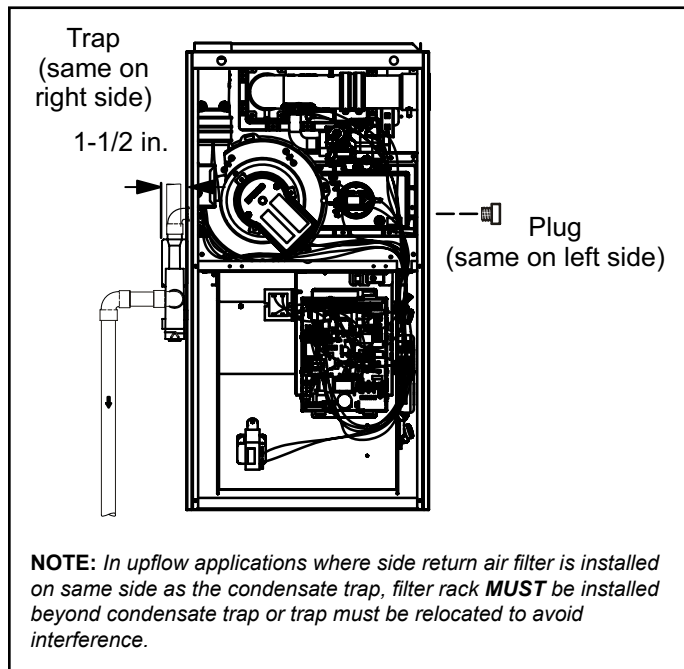
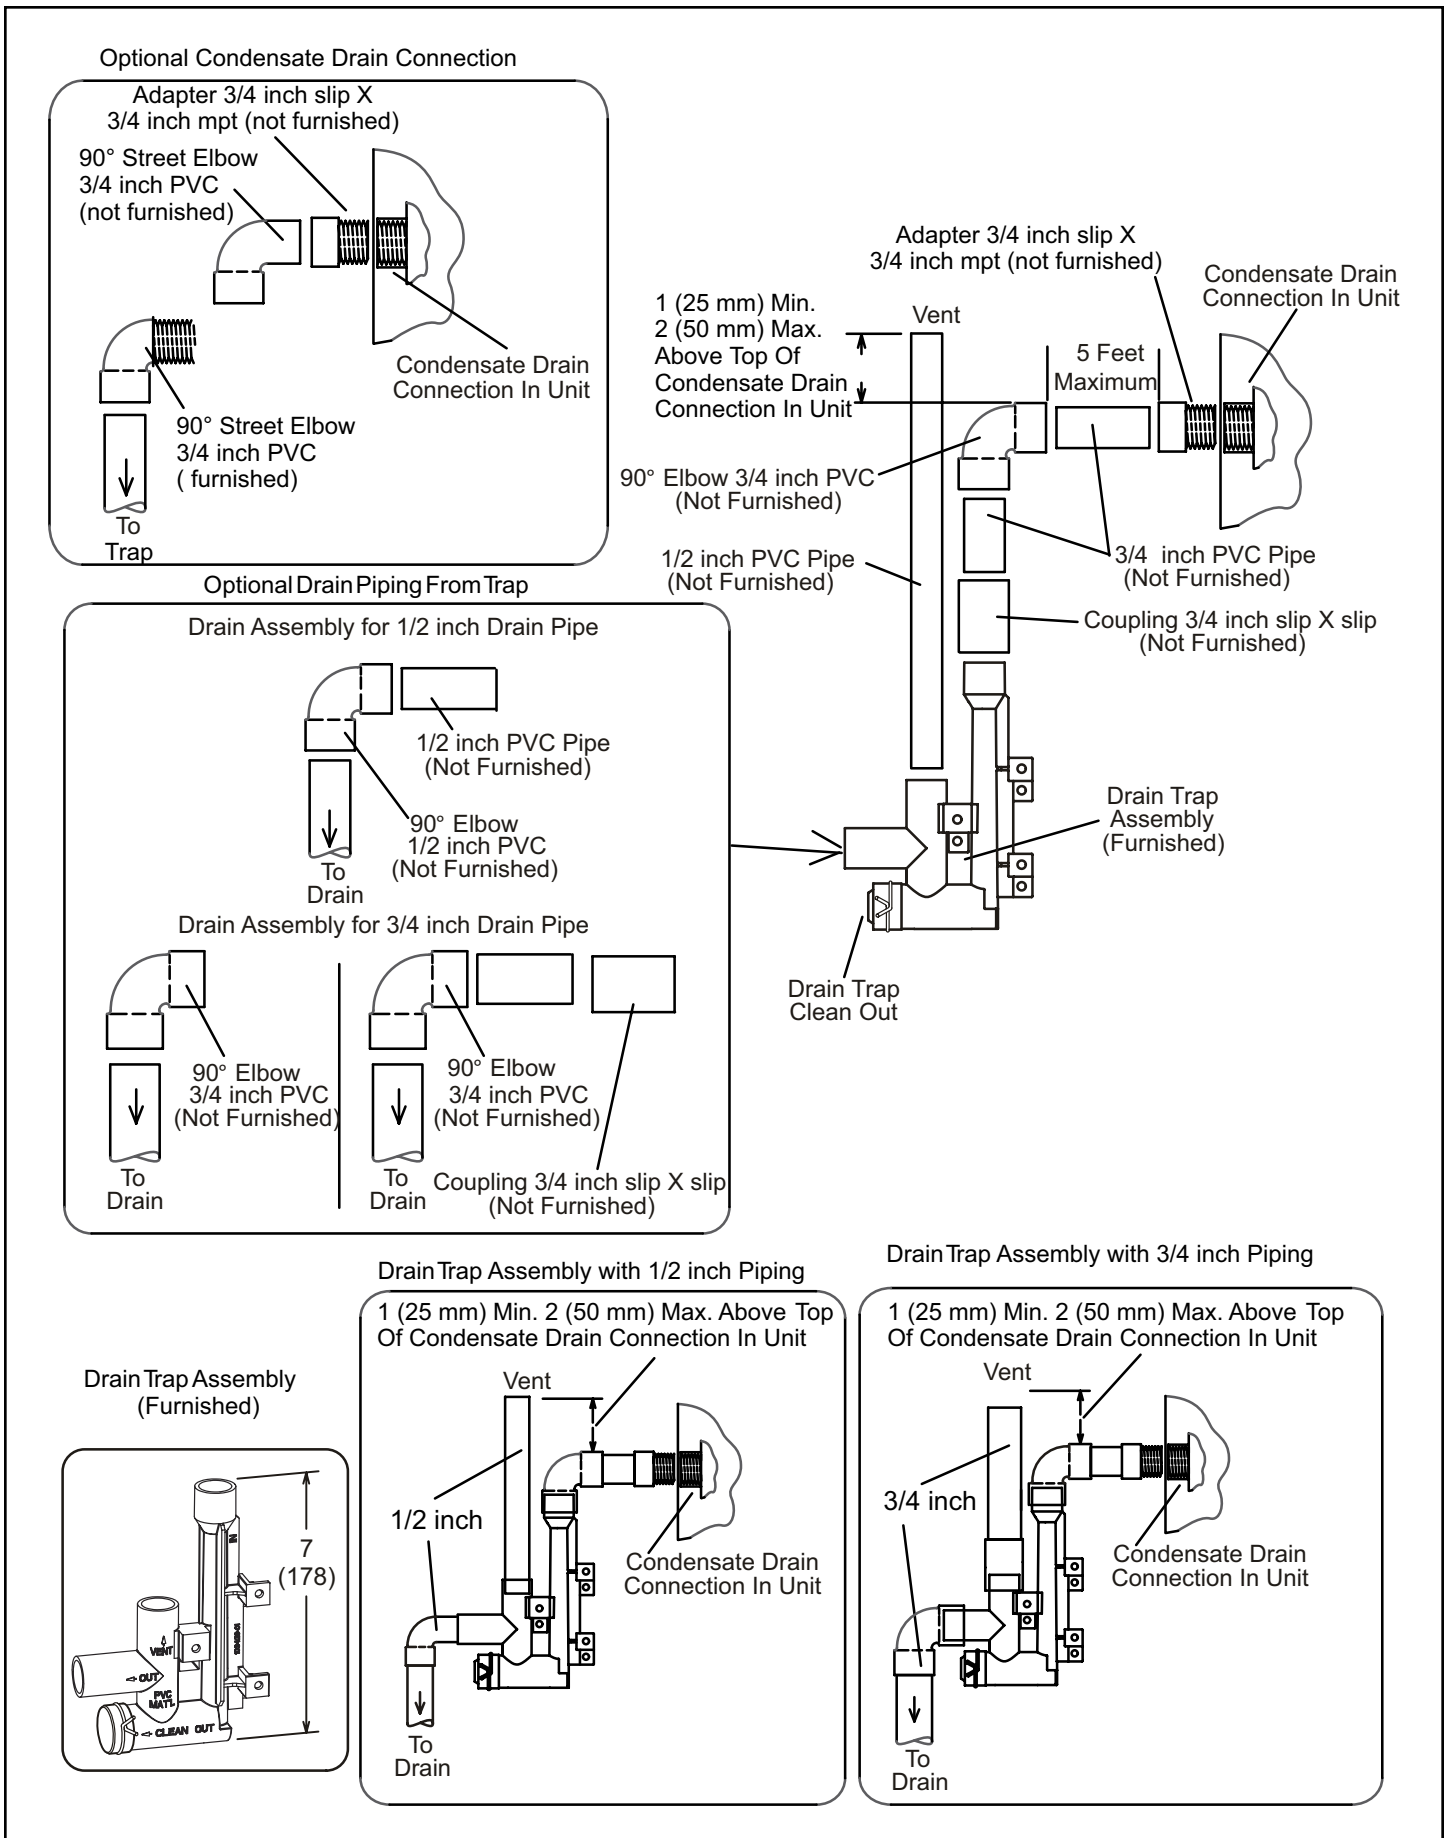

Figure 35. Condensate Trap and Plug Locations (unit shown in upflow position)
Figure 43. Trap / Drain Assembly Using 1/2" PVC or 3/4" PVC
This unit is designed for either right- or left-side exit of condensate piping in upflow applications. In horizontal applications, the condensate trap must extend below the unit. An 8" service clearance is required for the condensate trap. Refer to Figure 35 for condensate trap locations. Figure 43 shows trap assembly using 1/2" PVC or 3/4" PVC.
2. For furnaces with a 1/2" drain connection use a 3/8 allen wrench and remove plug (Figure 35) from the cold end header box at the appropriate location on the side of the unit. Install field-provided 1/2 NPT male fitting into cold end header box. For furnaces with a 3/4" drain connection use a large flat head screw driver or a 1/2" drive socket extension and remove plug. Install provided 3/4 NPT street elbow fitting into cold end header box. Use Teflon tape or appropriate pipe dope.
3. Install the cap over the clean out opening at the base of the trap. Secure with clamp. See Figure 43.
4. Install drain trap using appropriate PVC fittings, glue all joints. Glue the provided drain trap as shown in Figure 43. Route the condensate line to an open drain. Condensate line must maintain a 1/4" downward slope from the furnace to the drain.